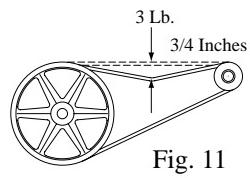

Fig. 11
- Check belt tension.** A 3 lb. force should deflect the belt 3/4 inches (see Fig. 11). Readjust belt if needed.